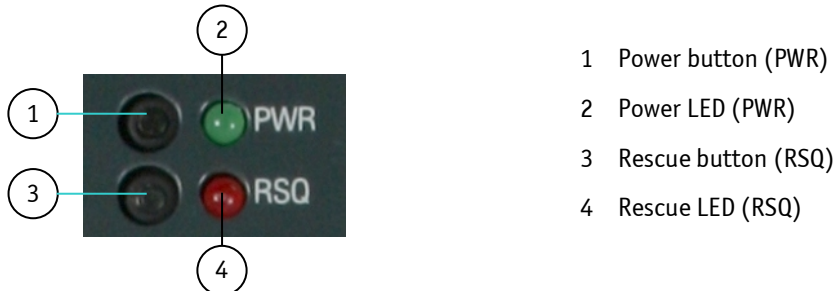

Fig. 21: Detail - Power button and PWR LED/Rescue button and RSQ LED
The power button (marked PWR in Fig. 21, pos. 1, Fig. 58, Fig. 60 and Fig. 63) is used to power the KBox C-101 on or off. By pressing the power button for longer than four seconds a forced system shutdown will be initiated, before the power to the system is turned off.
The power LED (marked PWR, Fig. 21, pos. 2, Fig. 58, Fig. 60 and Fig. 63) is on green steady when power is applied to the system.
The RESCUE button (marked RSQ in Fig. 21, pos. 3, Fig. 58, Fig. 60 and Fig. 63) is used to force using the backup flash for system booting.
The RESCUE LED (RSQ, Fig. 58, Fig. 21, pos. 4) blinks red when the backup flash is selected for booting. The backup flash contains a cloned BIOS (uEFI) version. In the event the system does not properly start-up or gets hung-up and restarting (cold booting) the system does not help, it is possible to switch to the backup boot flash and then restart the system. To do this, press the RSQ button for more than five seconds, whether or not the system is running it will now start-up using the backup flash for booting.